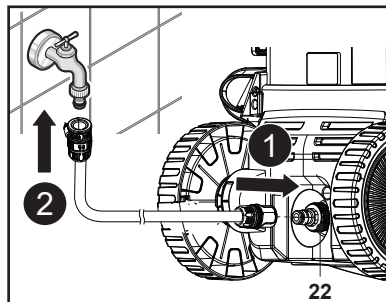

Fig. 10
2. Attach garden hose to the **water inlet adaptor (22)** on the water inlet connector (12) of the machine (Fig. 10, step 1). Always use a standard coupling for water inlet. The hose length cannot be greater than 8 m in length for proper operation.
3. Connect the other end of garden hose to a water supply (Fig. 10, step 2).